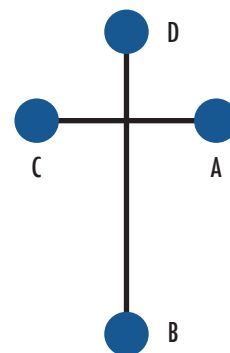

Figure 3. Diagram of basic cross microfluidic chip. Reservoir A=Sample; B=Buffer waste; C= Sample waste; D=Buffer.
Figure 3 shows a diagram of a generic microfluidic chip. The steps below require a chip with capillary/tubing connections already in place (information on applying CapTite bonded port connectors is included on Page 3 if needed).
2. Referring to Figure 3, using a syringe with a one-piece fitting connected to capillary or PEEK tubing, fill from bonded port connector B.